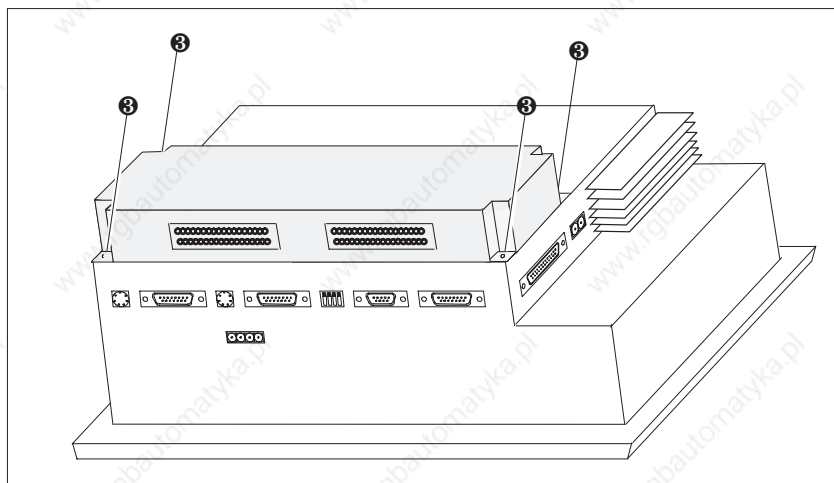

Figure 17-7 Securing the control panel interface (example: TP37)
4. Secure the control panel interface to the Touch Panel with the four screws enclosed (3) (illustrated in an example of the TP37 in figure 17-7).